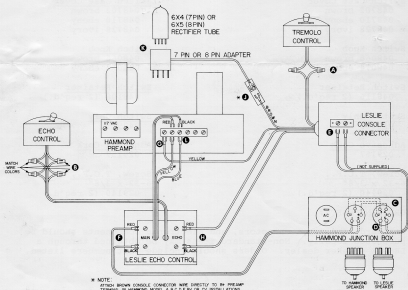

Fig. 1
5. Twist together stripped ends of tremolo control cable and AC type wires from console connector. Secure with two wire nuts provided in hardware package. (See "A" on Fig. 1.)
6. Twist together the stripped ends of matching colored wires from echo switch and echo control chassis. Secure with four wire nuts from hardware package. MATCH WIRE COLORS (See "B" on Fig. 1.)
8. Install 6 contact socket from hardware package in one of the vacant cutouts in the Hammond junction box. Secure socket with socket retainer ring provided in hardware package. (See "C" on Fig. 1.)
9. Use jumper wires to connect AC and ground terminals from existing 5 contact Hammond external speaker socket to AC and ground terminals on the newly installed 6 contact socket. Insulate all connections with electrical tape. See Fig. 1 for correct wiring. Don't forget to run jumper wires through cap provided in hardware package before completing connections.
11. Connect ends of two wires (not supplied) to contacts 1 and 6 at rear of 6 contact socket. (See "D" on Fig. 1.)
12. Strip opposite ends 3/8" and crimp two wire lugs from hardware package to them. Attach wires to the two screw terminals on the console connector. (See "E" on Fig. 1.)
13. Detach the red and black wires from "G-G" terminals on Hammond preamp. Attach wires to MAIN terminals on echo control chassis. (See "F" on Fig. 1.) These are the signal wires for the Hammond external speaker, which is now switched on and off by the LESLIE echo control switch.
14. Connect yellow wire from console connector to GND terminal on Hammond preamplifier. (See "G" on Fig. 1.)
15. Connect red and black wires from console connector to ECHO terminals on echo control chassis. (See "H" on Fig. 1.)
Attach brown wire from console connector to black wire from 8 pin B+ adapter supplied. (See "J" on Fig. 1.) Cover connection with electrical tape. Remove the 6X5 rectifier tube from its preamp socket. Plug 8 pin adapter into this socket; then plug 6X5 rectifier tube into the adapter. (See "K" on Fig. 1.)
Attach brown wire from console connector to black wire of the 7 pin miniature B+ adapter supplied. (See "J" on Fig. 1.) Insulate connection with electrical tape. Remove the 6X4 rectifier tube from its preamp socket. Plug 7 pin adapter into this socket; then plug 6X4 rectifier tube into the adapter. (See "K" on Fig. 1.)
17. Attach red, black, yellow, and blue wires from echo control chassis to "G-G" terminals on Hammond preamplifier. (See "L" on Fig. 1.)
18. Connect speaker cables to the external speakers and the Hammond junction box. (See "M" on Fig. 1.)